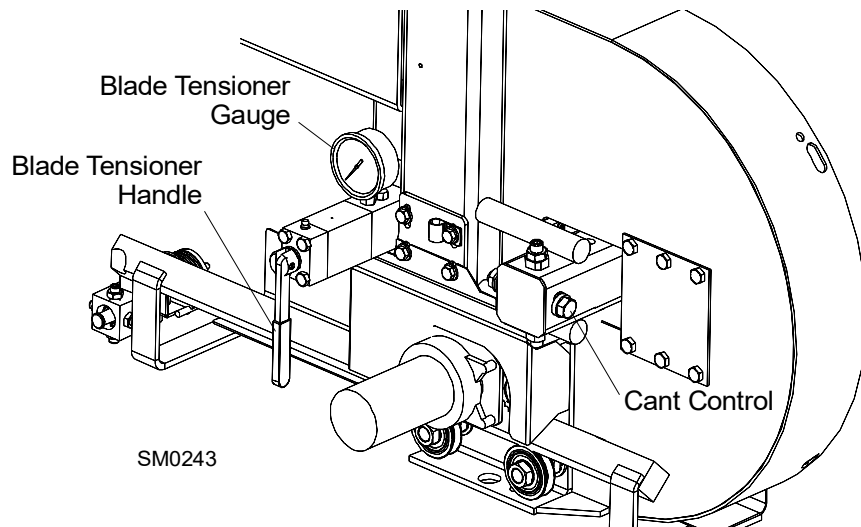

FIG. 3-5
See **Figure 3-5**. Tension the blade by turning the hydraulic tensioning handle clockwise until the tension gauge indicates the recommended tension.
5. To adjust where the blade travels on the blade wheels, use the cant control shown in Figure 3-5.